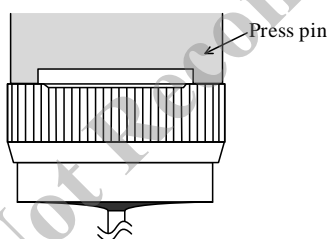

Figure 10 Recommended Press Pin Form
- Recommended press pin form: See Figure 10